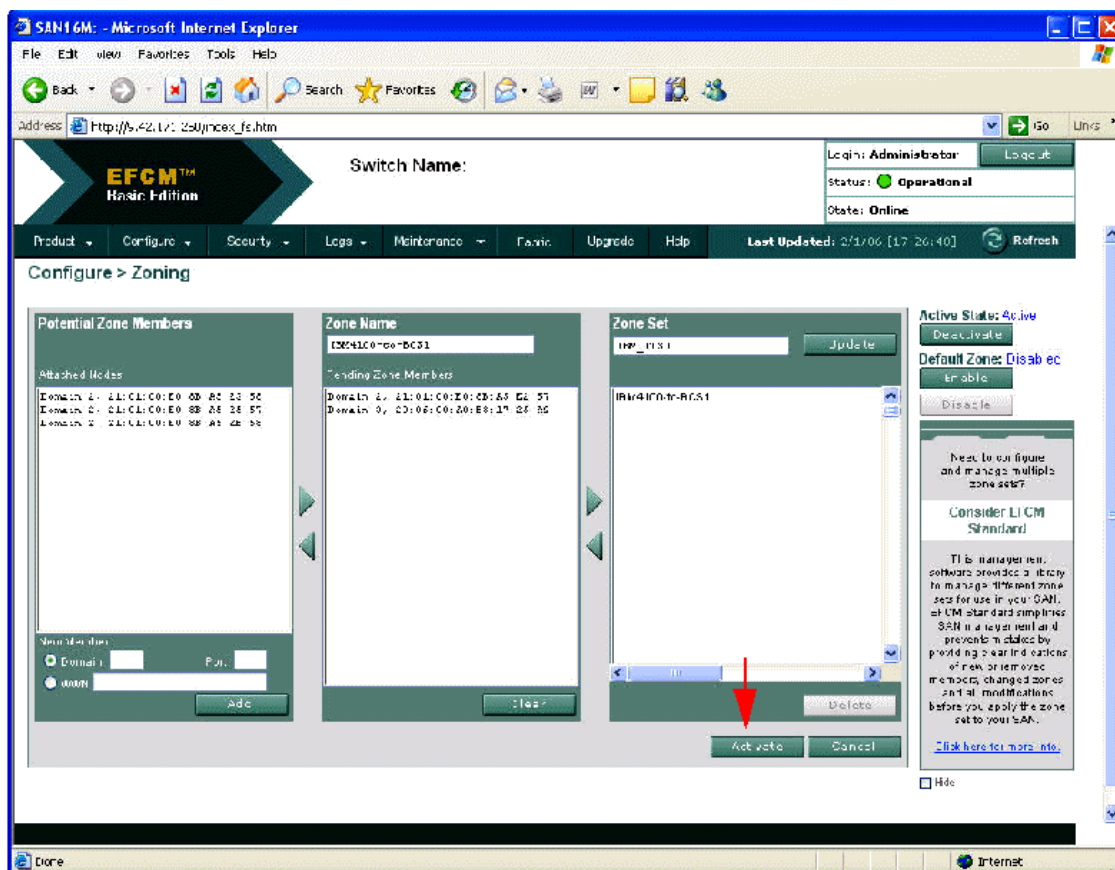

Figure 6-20 Configure → Zoning window
15. Define a zone name (1). Highlight the desired members (2) and click the right arrow button (3) to add the members to the zone and the zone to the zone set (see Figure 6-20).